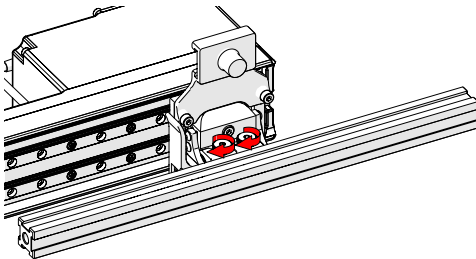

**Fig. 140** - Remove pivot nose
2. Using the supplied 3 mm hex driver, remove the raster arm pivot nose of the raster arm (Fig. 140).